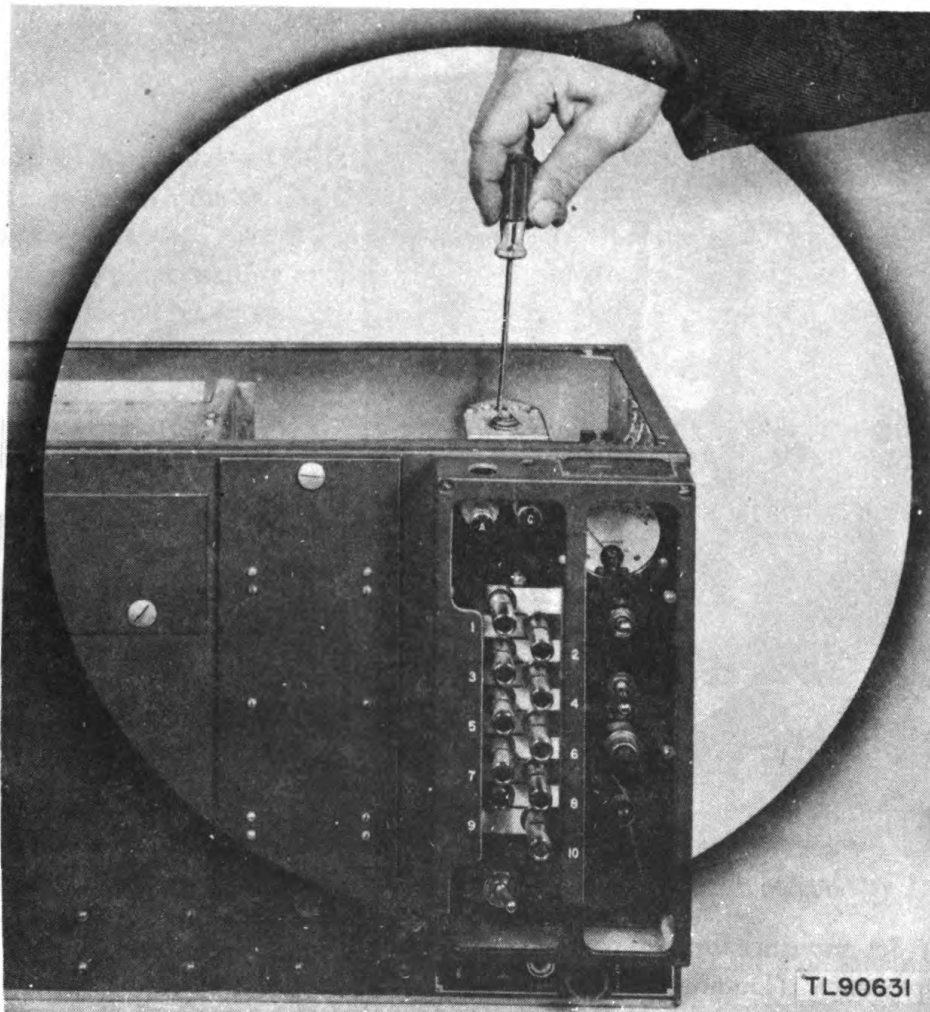
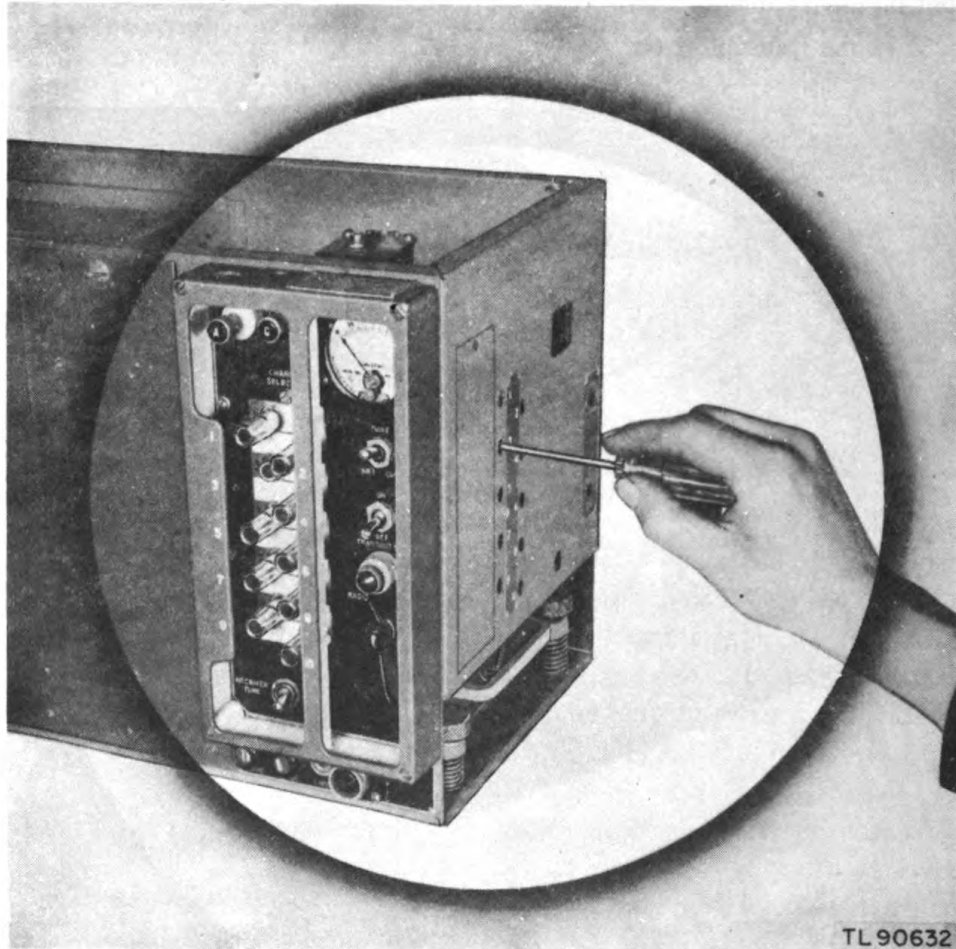

Figure 28. Adjusting tank circuit trimmer capacitor of transmitter.
Figure 29. Adjusting antenna tuning capacitor of transmitter.
(4) Set the tank circuit trimmer capacitor (located within the transmitter at the top) to midway capacity as shown in figure 28. Tune for resonance by adjusting antenna tuner capacitor for the channel being tuned. This capacitor is located on the right side of the transmitter as shown in figure 29. Either the